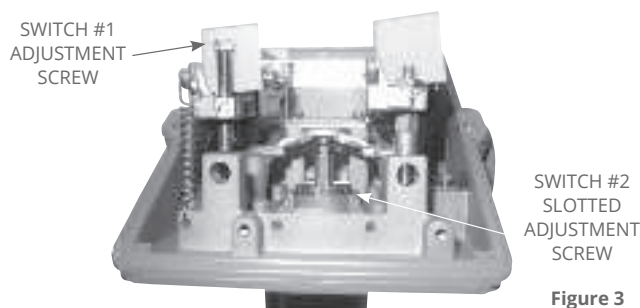

Figure 3
- Switch #2 should be set first, and to the highest set point. Using a flathead screwdriver, adjust switch #2 by turning the slotted adjustment screw (see Figure 3) clockwise to raise set point or counterclockwise to lower set point.
- Adjust switch #1 set point to an equal or lower set point than switch #2 by turning switch #1 adjustment screw (see Figure 3) clockwise to raise the set point or counterclockwise to lower the set point. Maximum switch separation between switch #1 and #2 is defined in Table 1. Both switches are now set.